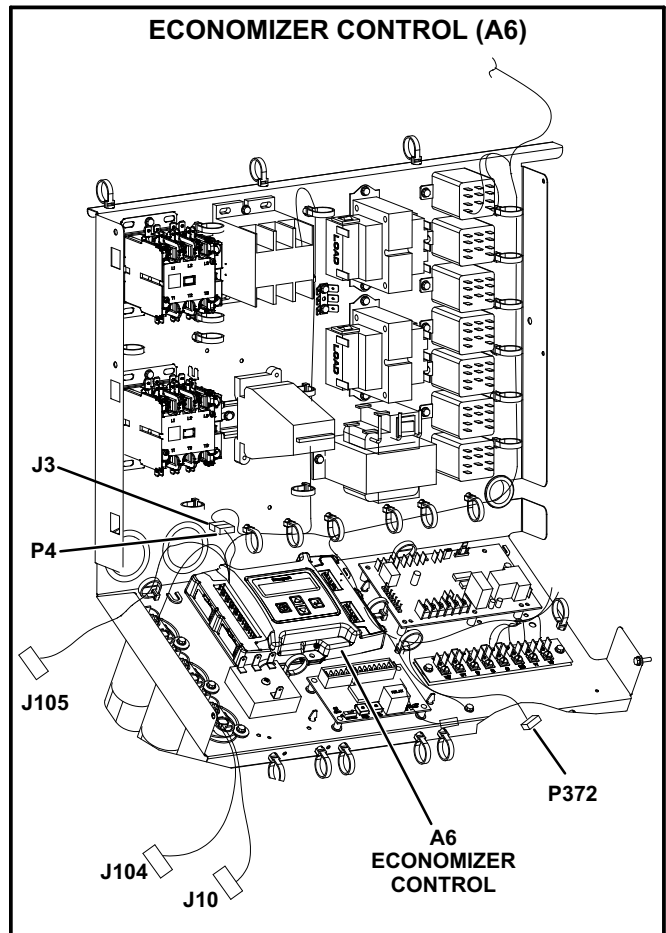

FIGURE 14
- 1- Install A6 economizer control below control panel as shown in figure 14. Secure with #6 - 32 X 7/8 TFS screws provided.